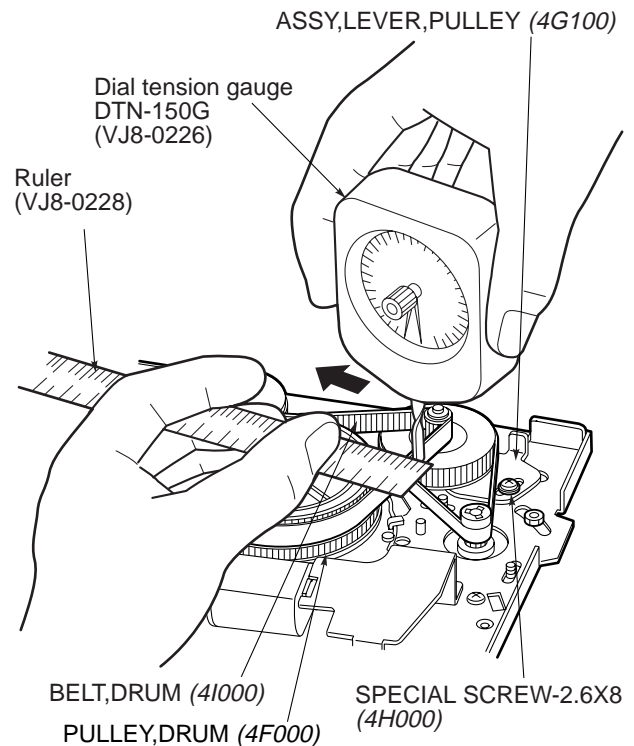

Fig. 3-7-3
3. Referring to Fig. 3-7-3, adjust the pressure welding value and install the "ASSY,LEVER,PULLEY (4G100)" as follows: